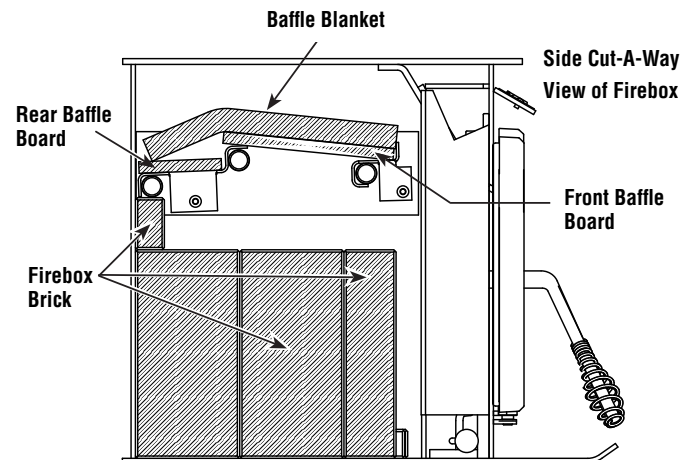

Figure 4
4. The final step of the baffle board & baffle blanket installation will be installing the front baffle boards. The front baffle boards will be the two remaining baffle boards which are the larger two baffle boards of the four baffle board kit. They will be installed with the 7-3/8" dimension from the front to rear of the firebox. Start by setting the back side of the board on the rear baffle making sure that it is placed far enough back to lift up and onto the front baffle. Next you will place the front edge of the front baffle boards on the top side of the front baffle and slide them towards the firebox front until it stops against the front baffle edge. You will do this with each front baffle board with one to the right side of the firebox and one to the left side of the firebox. Confirm that the baffle blanket is directly on top of the baffle boards and that it does not protrude beyond the front baffle or front baffle boards as shown in **Figure 4**.